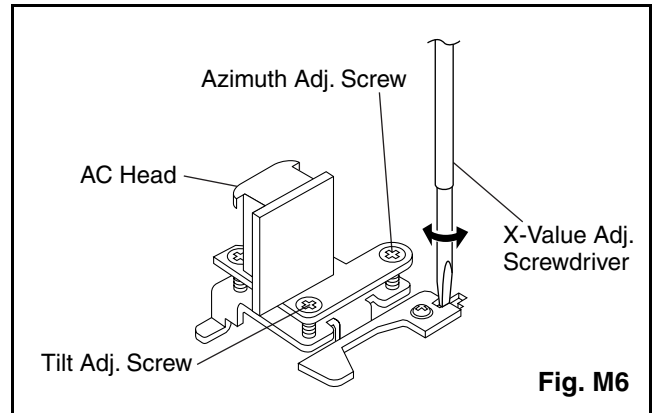

Fig. M6
4. If creasing or snaking is apparent, adjust the Tilt Adj. Screw of the AC Head. (Fig. M6)
4. Use the X-Value Adj. Screwdriver so that the PB FM signal at TP403 (ENV) is maximum. (Fig. M6)
3. Adjust Azimuth Adj. Screw so that the output level on the AC Voltmeter or the waveform on the oscilloscope is at maximum. (Fig. M6)